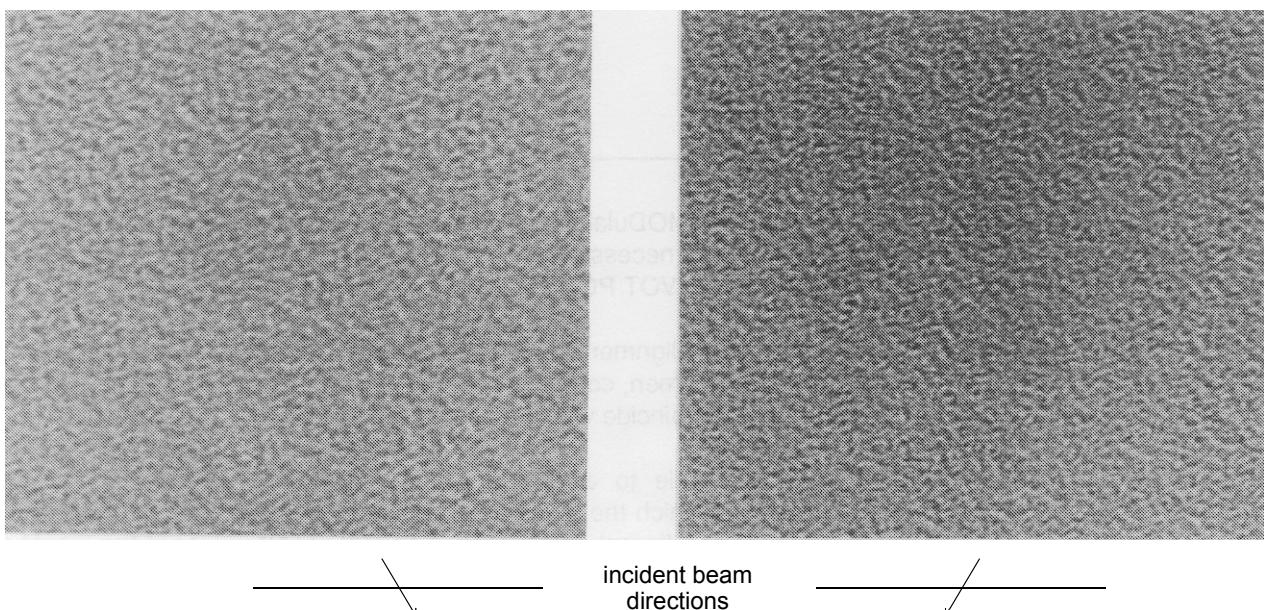

Fig.2.19. Carbon foil images obtained at two different angles of the incident beam, objective lens (rotation) alignment corrected
12. Repeat steps 8 to 11, alternating for the X and Y MODulation, until a similar granular appearance with minimum contrast is achieved for both incident beam directions in X and Y directions (see Fig. 2.19).